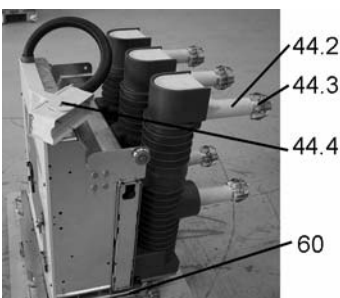

Figure 3.5
4) Withdrawable parts (see Figure 3.5)
The withdrawable part can only be moved from the test/disconnected position when the control wiring plug (**44.4**) (Figure 3.5) has been connected to socket (**50.1**) (mechanical interlock).
Connecting and disconnecting the control wiring plug (**44.4**) (Figure 3.5) is only possible in the test/disconnected position of the withdrawable part due to the door interlock.